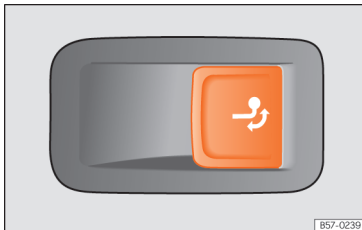

Fig. 297 Right side of the boot: button to unlock the tow hitch.
- Pull the »»» Fig. 297 button briefly. The tow hitch unlocks electrically and automatically turns outwards. The control lamp in the button will flash »»» Fig. 297.
- Pull the »»» Fig. 297 button briefly. The tow hitch unlocks electrically.
- Turn the tow hitch under the bumper with your hand until you feel and see that it engages and the control lamp on the »»» Fig. 297 button stays on.
- If the warning light of the button »»» Fig. 297 is flashing, this means that the tow hitch has not been attached properly or is damaged »»» ⚠.
- Never press the » Fig. 297 button when there is a trailer hooked to the vehicle or when a carrier system or other accessories are mounted on the tow hitch.